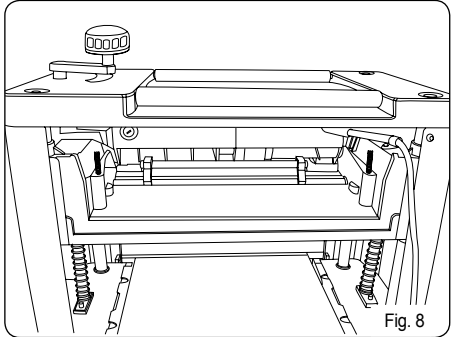

Fig. 8
SETTING THE BLADE HEIGHT (Fig. 8&8a)
- To obtain a blade projection of 1.5mm, place the blade setting gauge (E) on the cutterhead with both guides resting firmly against the blade. (Fig. 8)
- Loosen the assembly by turning the 7 screws (A) clockwise with an open end wrench.